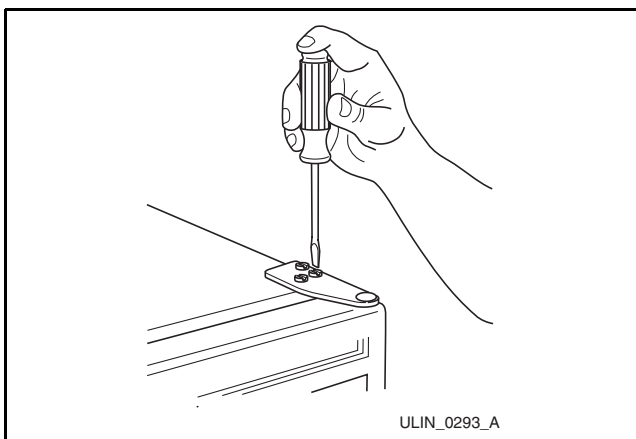
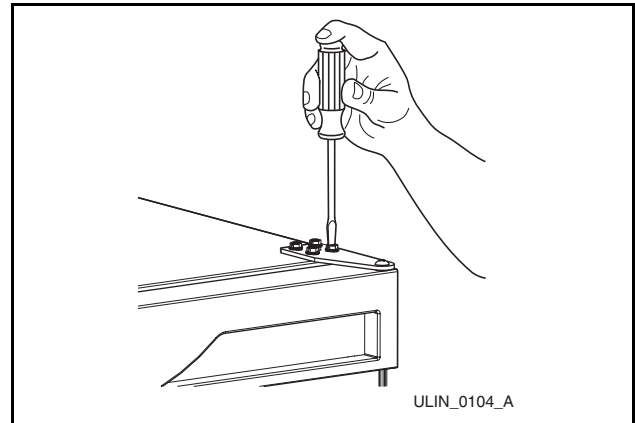

Figure 42
Figure 43
1. Loosen (do not remove) top and bottom hinge screws (**Figure 42** and **Figure 43**).